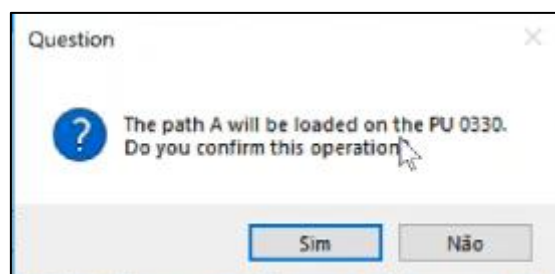

Fig. 282 - Confirmation message to exportation
5. After that, clicks on RFID () button and it will pop up a window asking if he wants to load the path to the PU (Fig. 282);